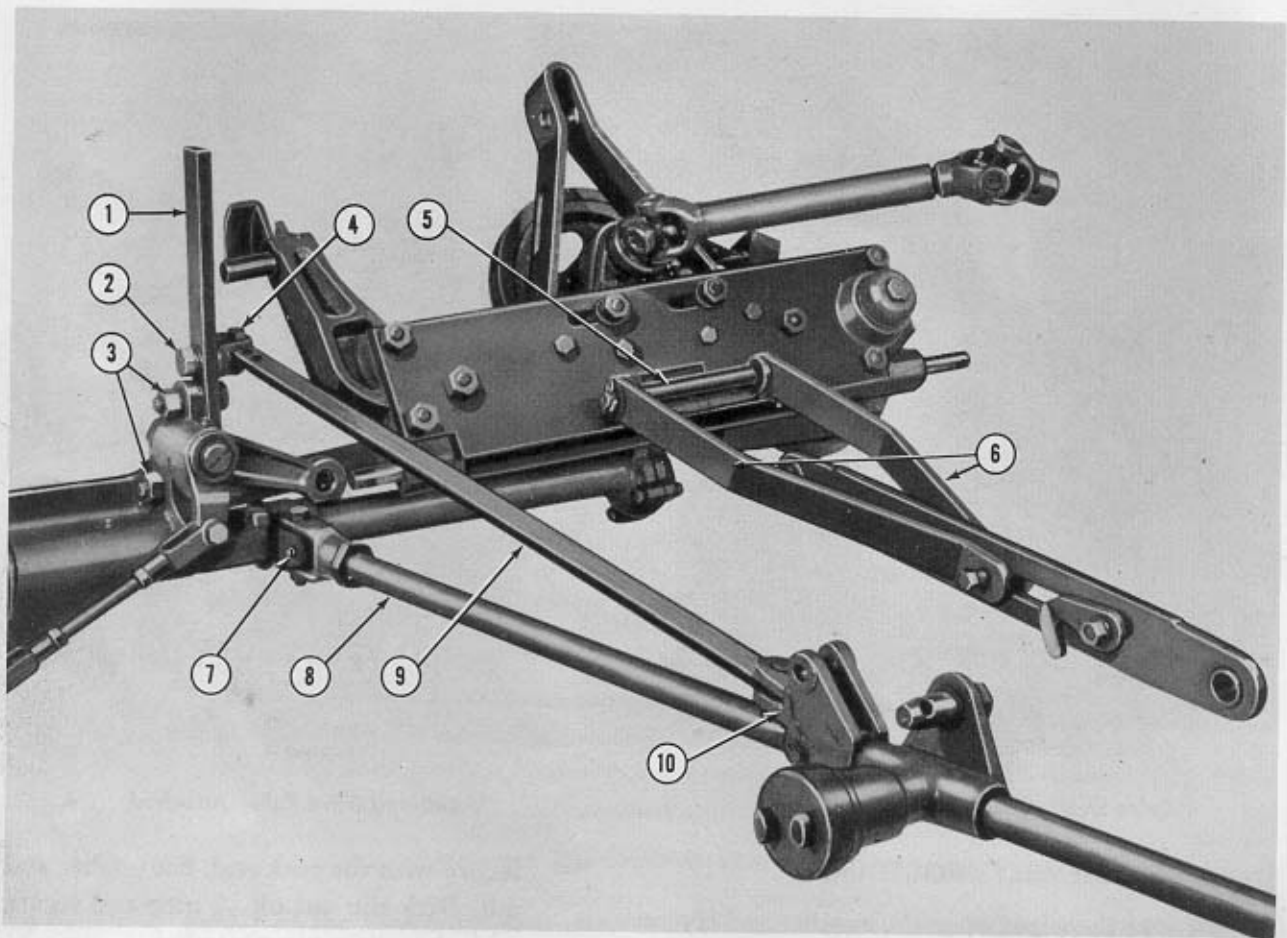

Figure 5
5. Tilt the mower main frame to the rear as shown in Figure 5 and attach the top link anchor straps (6) to the bracket on the front of the main frame. Secure with the $\frac{3}{4}$ "x $8\frac{7}{8}$ " pin (5), flat washers and cotter pins as shown.
6. Attach the tilt lever (1), Figure 5, to the hinge casting with the two bolts (3) and secure with the lock washers and nuts provided. Attach the tilt link yoke (4), Figure 5, to the left side of the tilt lever with a
7. Attach the yoke end of the pull bar (8), Figure 5, to the eye (7) on the drag bar with the $\frac{1}{2}$ " x $2\frac{1}{2}$ " spacer, $\frac{1}{2}$ " x $2\frac{11}{16}$ " bolt, lock washer and nut provided.
a. Attach the forward end of the tilt link (9) (forward end has only one hole) to the bracket (10), as shown in Figure 5, and secure with a $\frac{1}{2}$ " x $1\frac{7}{16}$ " pin and cotter pin.
b. Attach the rear end of the tilt link (9) to the yoke (4), Figure 5, with a $\frac{3}{8}$ " x $1\frac{3}{8}$ " bolt, lock washer and nut.